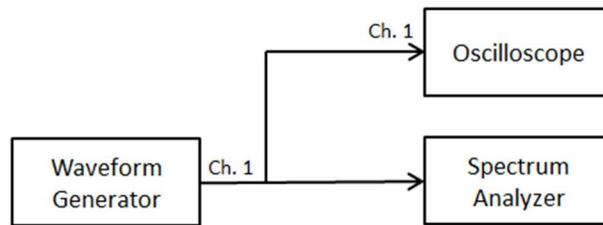

Fig. 1: measurement setup for Part I
1. In this part, we will generate various periodic signals, observe them on an oscilloscope (OS) and measure their spectra on a spectrum analyzer (SA). Assemble the measurement setup according to Fig. 1. To generate a sinusoidal signal in Channel 1 of the signal (waveform) generator (SG), press the “Waveforms” button to select the type of the signal; by pressing the “Parameters” button, you can set the frequency, amplitude and other parameters of the signal. Set the frequency to 1 MHz and the amplitude to 1 Vpp. Press Channel 1 button and set its output “on” using the “output” softkey. Connect the output of Channel 1 to both Oscilloscope and Spectrum Analyzer (SA). Set the start and stop frequencies on the SA to 100 kHz and 5.1 MHz, respectively. You can do it by pressing “FREQ” button and then using “Start” and “Stop” frequency softkeys. Measure the amplitude and frequency on the Oscilloscope (OS) and compare it to the measurement on the SA: do they agree? Explain the difference, if any. Record the amplitude of the main harmonic on the SA for different units including V, dB $\mu$ V, W, and dBm by pressing “AMPL” and selecting units using “Unit” softkey. Compare the measurement results on SA to that of the OS and explain the difference, if any. Change the Range on the SA (by pressing “AMPL” key) from 10 dB/DIV to 5 dB/DIV and observe the difference. Return the Range to 10 dB/DIV, increase the amplitude (e.g. double) on the SG and observe the output. For all measurements you make, save screenshots of the display to a USB stick by pressing “Save/Recall” button and then using “Screenshots” and “Save” softkeys on both Oscilloscope and SA (use “Inverted” color mode, which provides light background suitable for printing) and include them in the report.